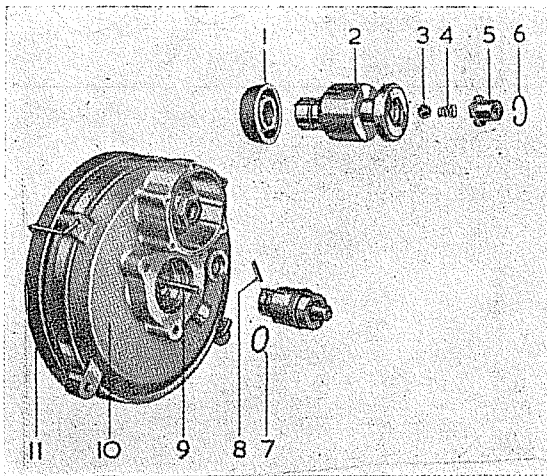
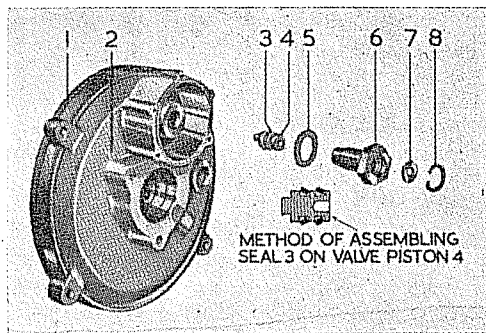
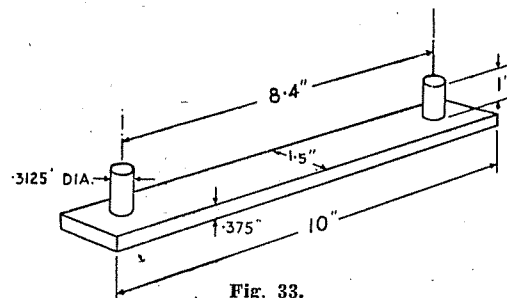

Fig. 29.
Fig. 30.
Fig. 33.
- (9) Remove rubber sealing ring (2).
- (10) Remove the slave cylinder (2) Figure 29, off the piston rod (9) by removing circlip (7) and driving out pin (8).
- (11) Remove circlip (6) and spring retainer (5) spring (4) and ball (3).
- (12) Carefully remove piston cup (1).
- (13) Remove the hooked clamps and withdraw the vacuum piston assembly (11) from the end cover (10) and collect the return spring.
- (14) Place the vacuum cylinder end cover (2) Figure 30, on the fixture, illustrated in Figure 33. Secure the fixture in a vice.